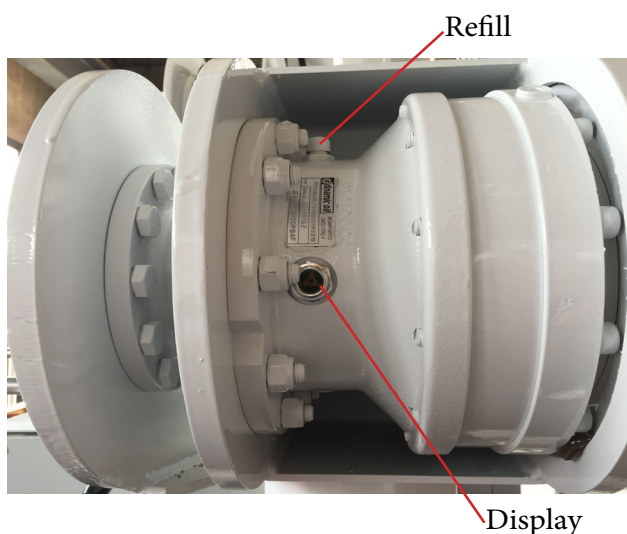
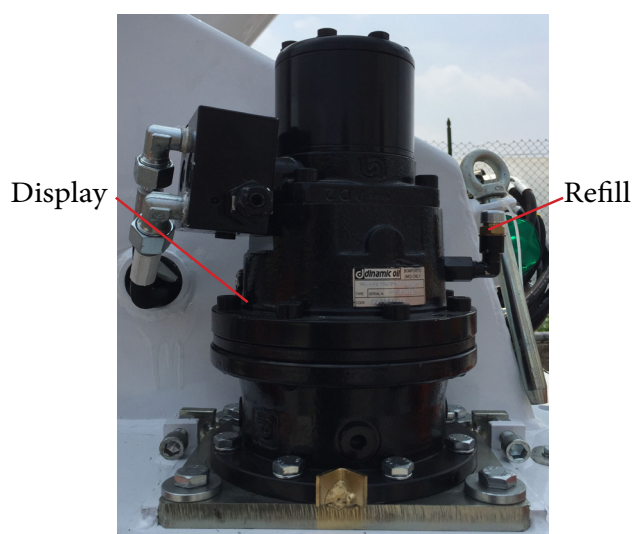

Fig. 5.4
Fig. 5.5
- Check the oil level in the gearbox for the cage leveling by means of the special display Fig. 5.4 and Fig. 5.5.